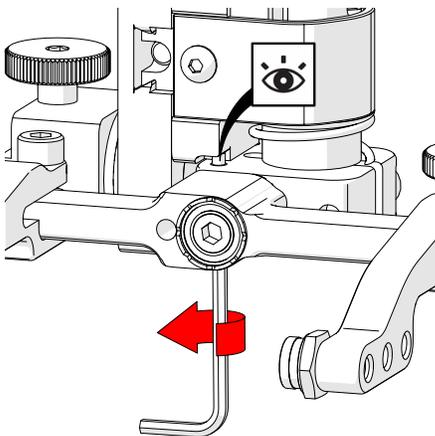

Fig. 96 - Raise opposite 90° stop post
8. Raise the stop post on the opposite side until the side of the post contacts the 90° stop point on the probe holder's base (Fig. 96).